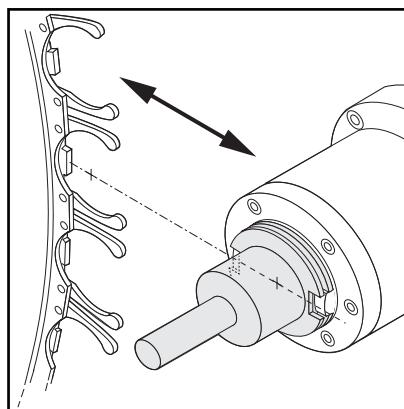

Figure 3-27.
30. Handle Jog the spindle in the -Z direction (towards the front of the machine) and align the tool changer's fingers with the groove in the tool holder. Handle jog the spindle in the +X direction (towards the tool changer) and slowly move the tool holder into the extractor fingers. **STOP AND RE-ALIGN IF ANY MISALIGNMENT IS FOUND.** Continue to move the tool holder into the fingers until the drive notch on the side of the tool holder is approximately 0.050 in. from bottoming out on the carousel's alignment key. Refer to *Figure 3-27*.
39. Install a tool holder into the spindle. See *Figure 3-27*.